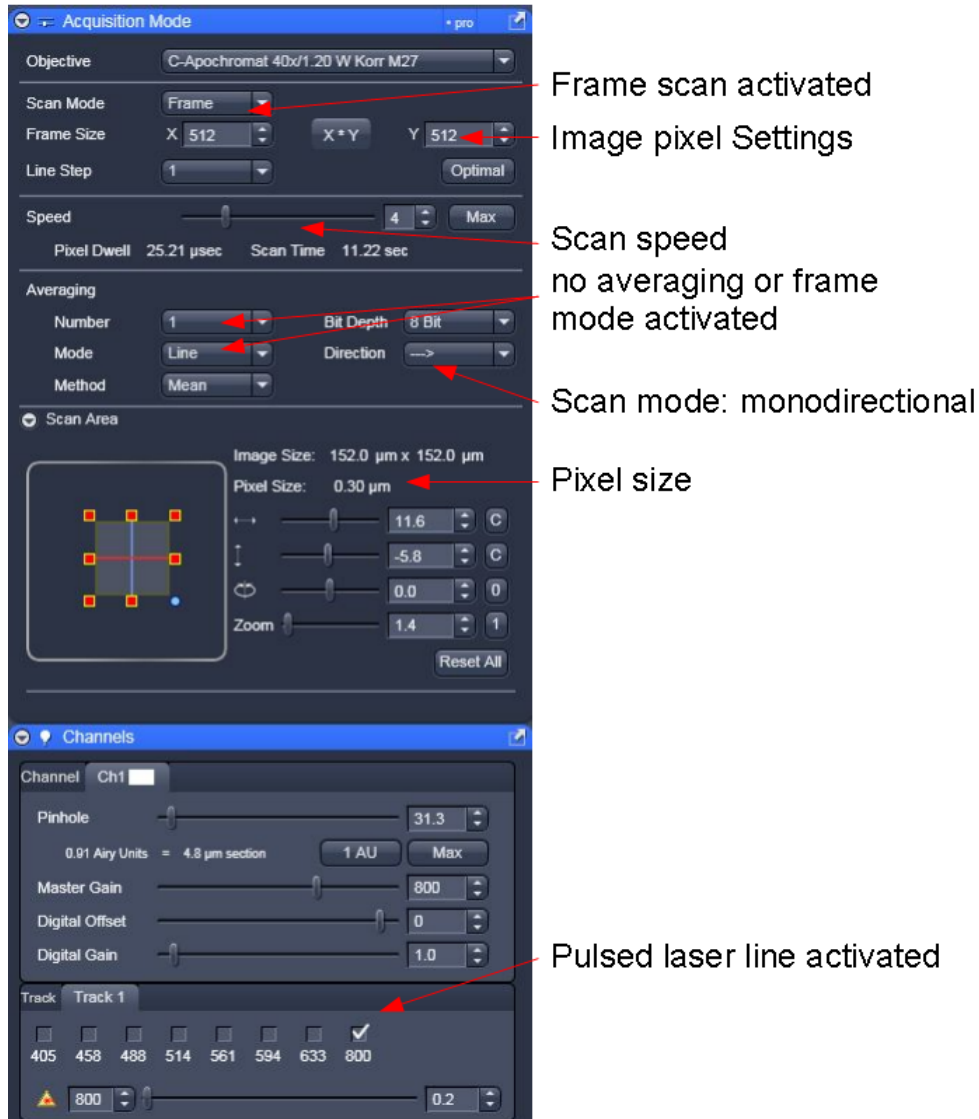

Fig. 2.2: LSM scanning settings in the LSM software
- Use a **monodirectional scan** as indicated in Fig. 2.2.